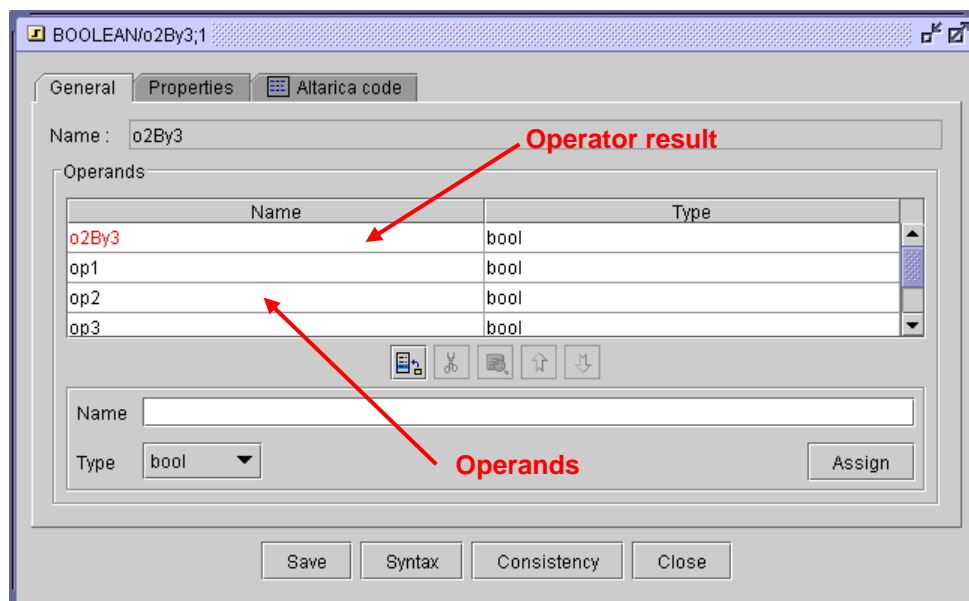

Figure 118 : Operator editor - General tab
- ♦ The *Operator editor* (Figure 118) is open; it contains three tabs :
The **General** tab (Figure 118) contains the following information:
- ◆ The operator editor is open (Figure 118).